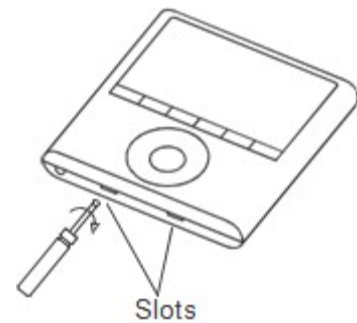

Fig 3-2
- Insert a screwdriver into slots in the lower part of the wire controller (2 places) and remove the upper part of the wire controller. (Fig. 3-2)